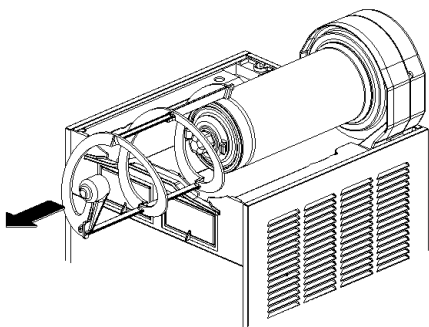

figure 7
- 3 Slide the outer spiral out (see figure 7) and then Outside